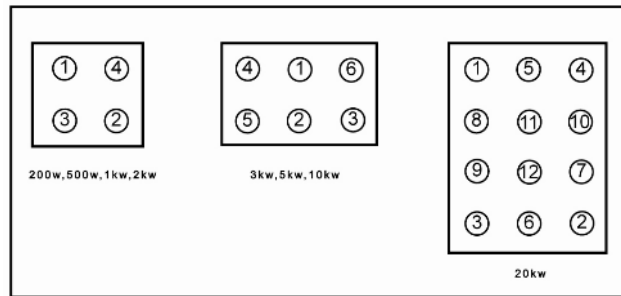

Fig 8 Layout of Blade
bolts is sequence (as shown in Figure 8). (300w has three bolts, screw them down one by one).
9. Install the tail rod see in Figure 8 and tail vane on the host by the M16 screw nut and lock it.